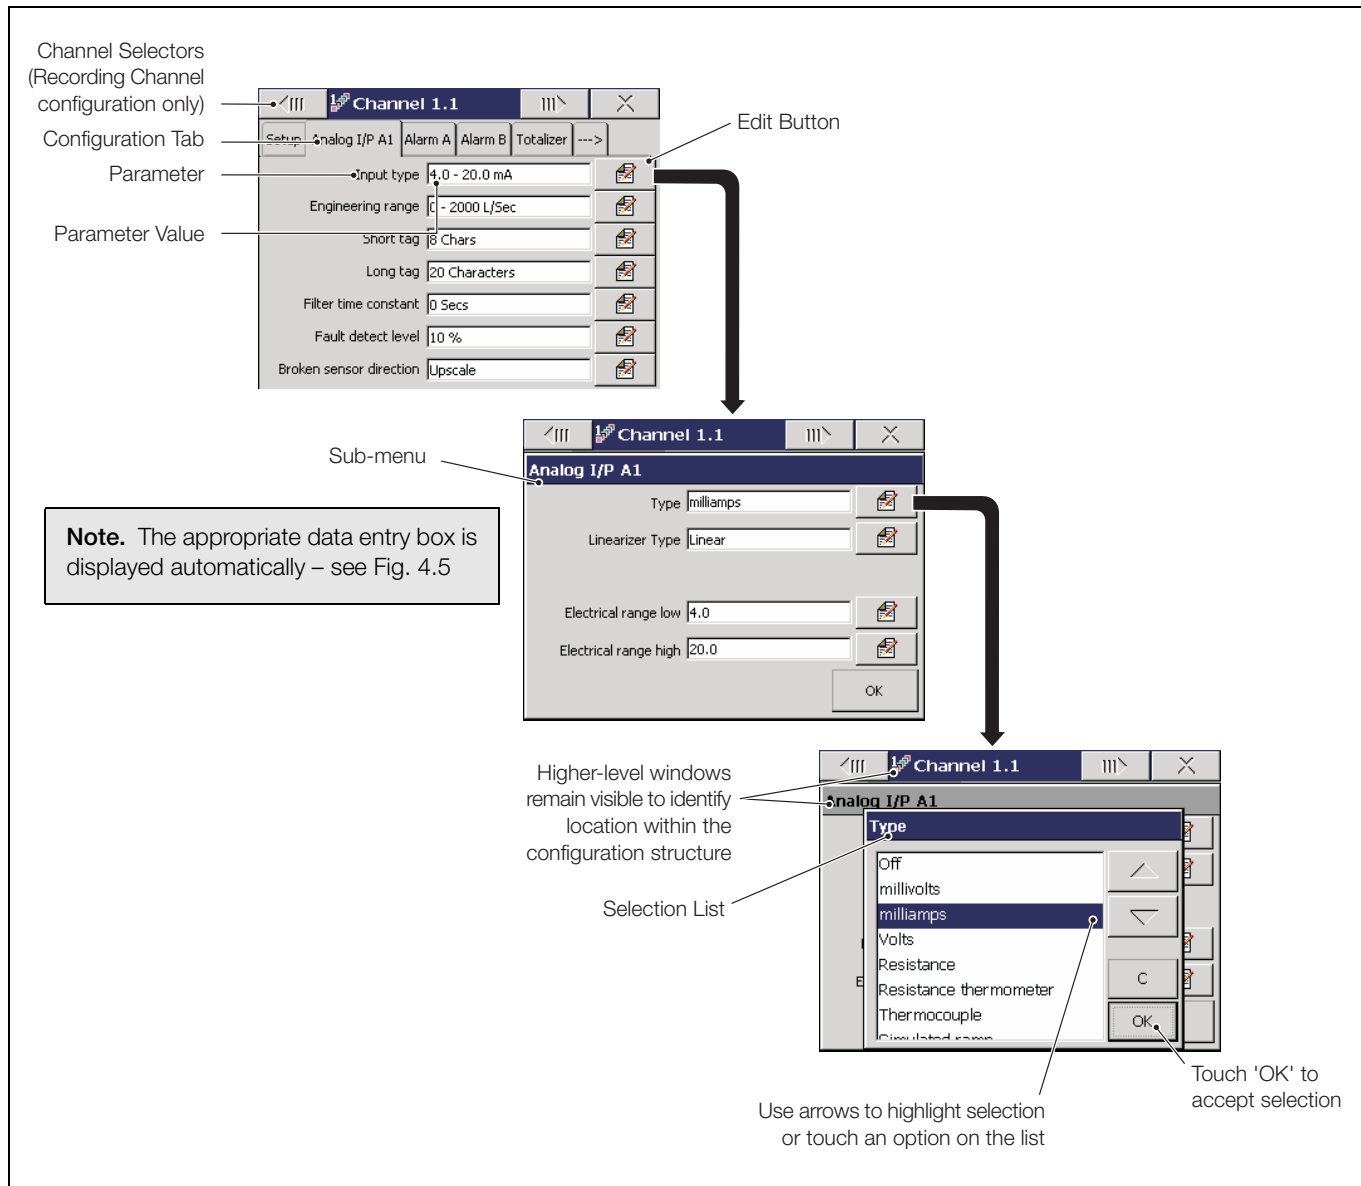

Fig. 4.4 Locating Parameter Settings
4.3 Making Changes to Parameters – Figs. 4.4 to 4.6